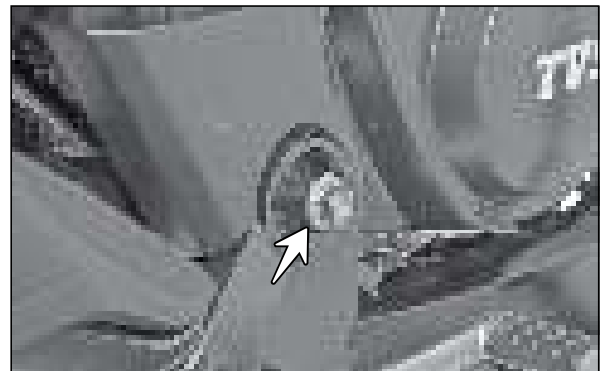

Fig. 6.149
- Draw out the shaft complete swing arm along with punched washer by gently tapping at the other side. (Fig. 6.149)